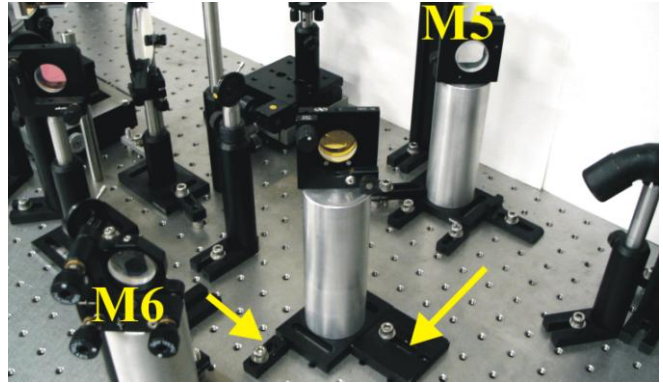

FIGURE 38
4. Flip up the mirror directing the beam into the autocorrelator setup, located between mirrors M5 and M6. (Location shown with arrows in FIGURE 38, but a mirror mounted flip-mount has been in use since).